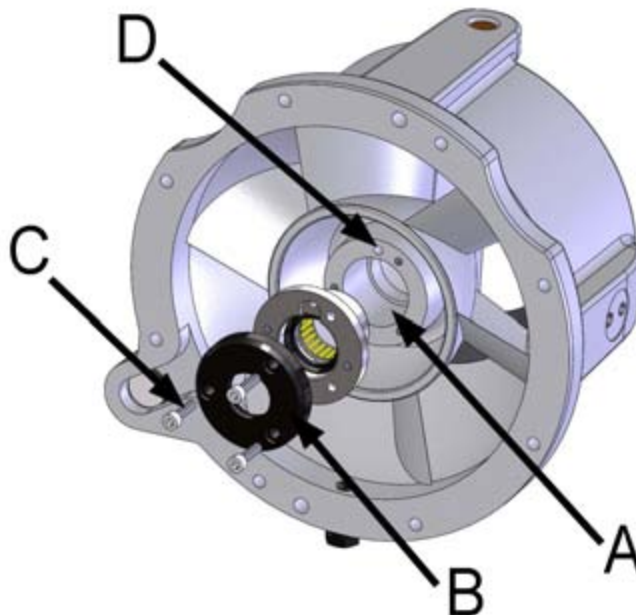

Figure 35. Installing the blanking plate
2. Push the bearing housing into the hole on the stator (figure 35, point A).
3. Press the bearing housing into the stator hole in the correct position so that the three fastening screw holes (figure 35) are aligned. This is when
the housing is in the correct position. Install the cover (figure 35, point B) in place and tighten the fastening screws. Use a thread locking compound (such as Loctite 242).
4. Remove excess adhesive compound from the hole (figure 35, point D).